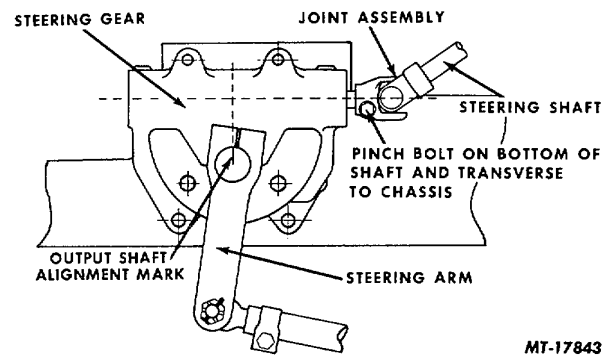

Fig. 15 Steering Gear Alignment
5. Manual Steering: Turn steering wheel until mark on steering gear output shaft is perpendicular to the input shaft, and the input shaft yoke pinch bolt is at the bottom of the shaft, as shown in Fig. 15.
Power Steering: Turn steering wheel until mark on steering gear output shaft is perpendicular to the input shaft (Fig. 15). If the steering wheel is off center remove yoke from steering gear input shaft and reinstall on different serrations to align steering wheel.